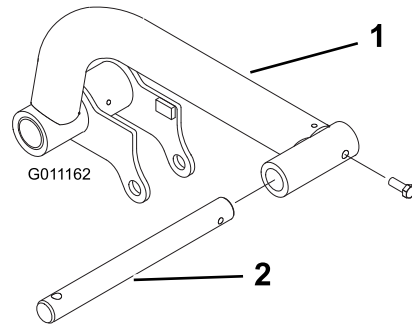

Figure 14
- Insert a pivot rod into each lift arm and align the mounting holes (Figure 14).